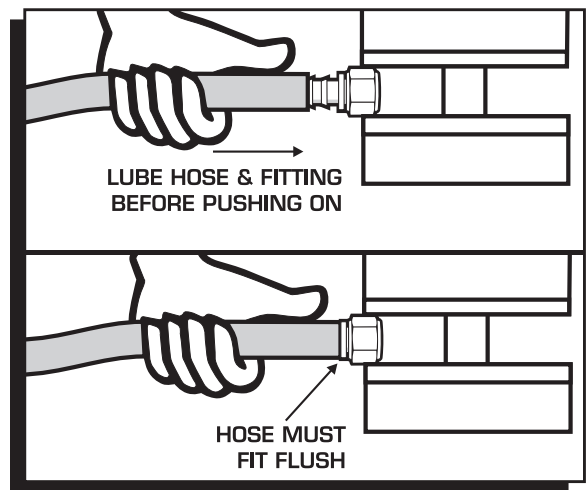

Figure 6 Installing Fuel Hose to the Push-Lock Fittings.
6. MSD supplies two -6 AN style fittings for use on the throttle body fuel inlet. Both use ‘push-lock’ style inlets to connect to the fuel hose and do not require clamps. Determine whether the 90° or straight fitting is best for your application and install the hose by pushing it all the way flush on the fitting. A dish soap solution will help with the installation (Figure 6). Note: Do not use clamps on these fittings as it could damage the hose.